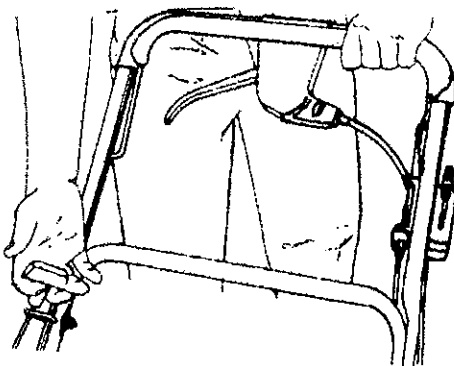

FIGURE 17.
2. Standing behind the unit, depress the blade control handle and hold it against the upper handle as shown. See figure 17.